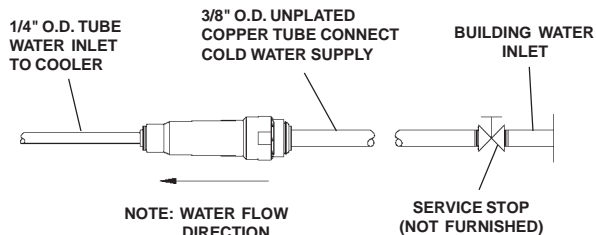
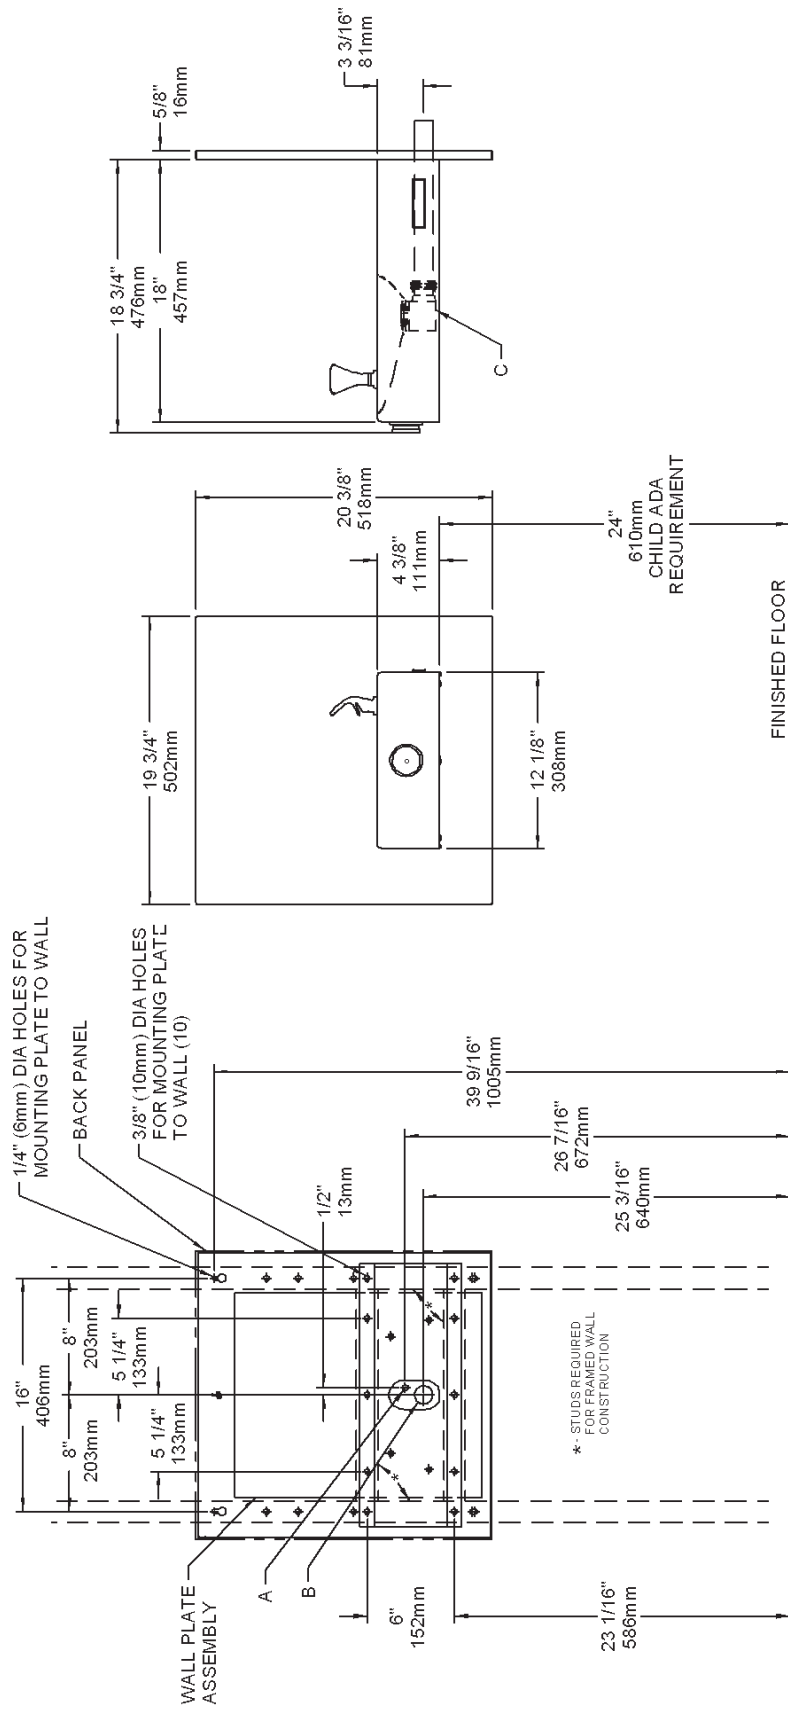

FIG. 1
FIG. 3
1. **Wall should already be framed for the fountain** using the positioning dimensions shown in Figure 3. Shown dimensions pertain to installation location (framing must support up to 300 lbs. weight). These dimensions are required for compliance with ANSI Standard A117.0.
2. **Attach wall plate assembly to wall** as shown in Figure 3 using 5/16" x 2" long bolts and flat washers (not provided). Tighten securely. (Fastener must match wall type, i.e. lag screws for wood studs, bolts and anchors for masonry construction.)
4. **Install rough-in plumbing** as shown in Figure 3. Waste line should extend a minimum of 2" (51mm) thru the back panel. Run supply water inlet line thru back panel. Install a service stop (not provided). Turn on supply water and flush thoroughly.
5. **Remove bottom access panel** from fountain basin and save the screws. Install the fountain to the back panel using (4) 5/16" x 3/4" long screws and washers (provided) thru holes in back panel. Tighten securely.
7. **Make water supply** connections from service stop to the 3/8" O.D. unplated copper tube coming out of the fountain strainer (See Fig. 1). Turn on water supply and check for leaks. Newly installed water supply line should be insulated after leak check is completed. **DO NOT SOLDER TUBES INSERTED INTO THE STRAINER AS DAMAGE TO THE O-RINGS MAY RESULT.**